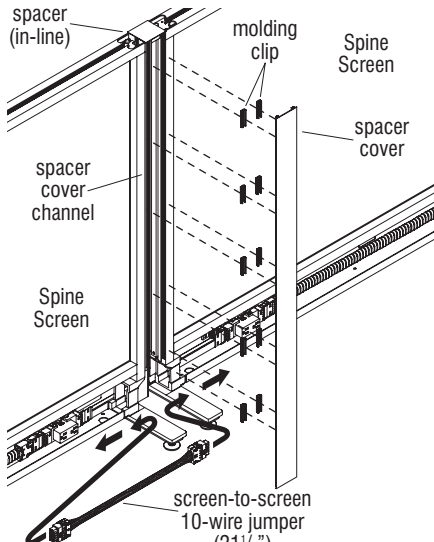

Figure 37
5. At the location specified for a screen-to-screen jumper between the spacer, route the jumper through the pass-through ankles at each end of the Spine Screen, then plug the ends into each rigid wireway of the powered Spine Screens (Figure 37).
6. On the rib side of the spacer cover, space molding clips evenly apart and press them onto the ribs of the cover (Figure 37 & Detail VV).
7. Position the spacer cover with molding clips up against the spacer cover channel. Using a firm hand, press on the spacer cover at the molding clip locations to snap molding clips into the spacer cover channel (Figure 37 & Detail VV).